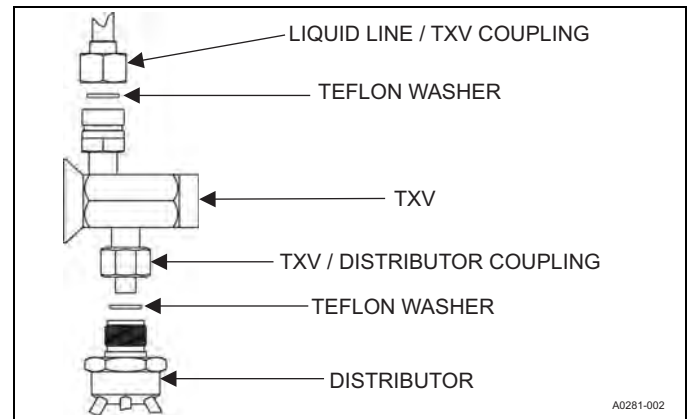

FIGURE 1: TXV Installation
4. Install TXV on distributor assembly with supplied fittings. Ensure teflon washer is seated in distributor. Hand tighten and turn an additional 1/4 turn to seal. Do not overtighten fittings. See Figure 1.